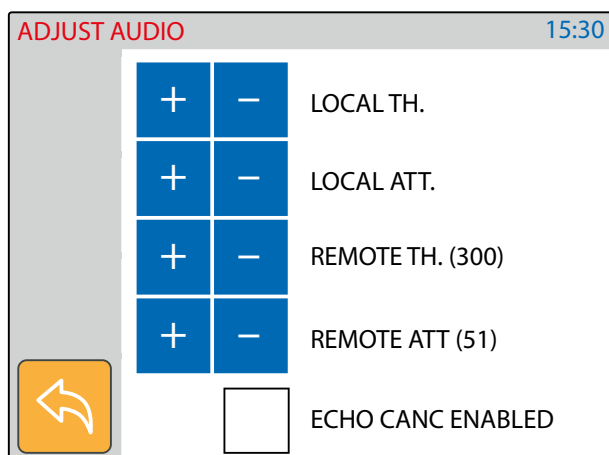

Fig. 17 Adjust the speech for the selected door panel
- Select the door panel to connect to then tap the tick button to open the communication (Fig. 17).